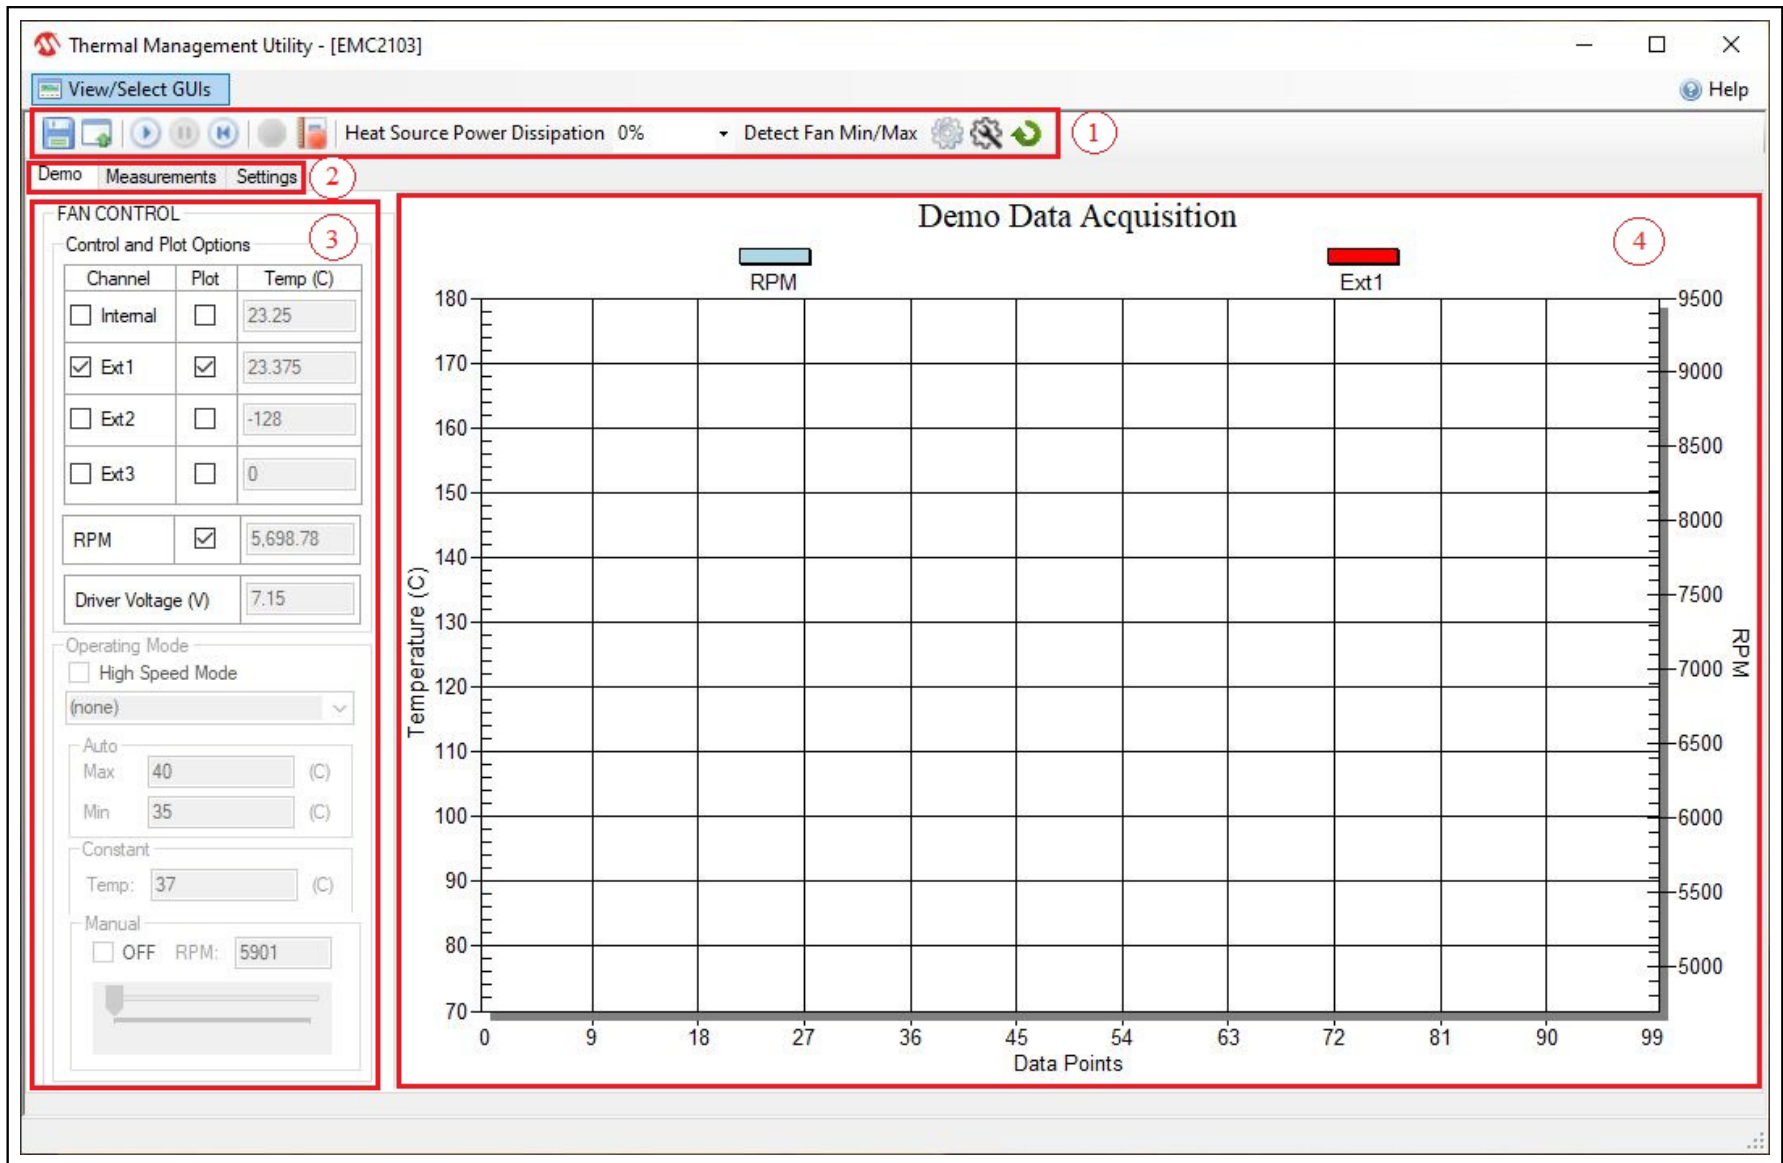

FIGURE 3-2: Thermal Management Utility Main Window.
The Thermal Management Utility main window (Figure 3-2) consists of a Control Tool-bar (marked in Figure 3-2 with the number 1), a View Selection section (marked with the number 2), a Demo Options section (3) and a Temperature/RPM Plots section (4).